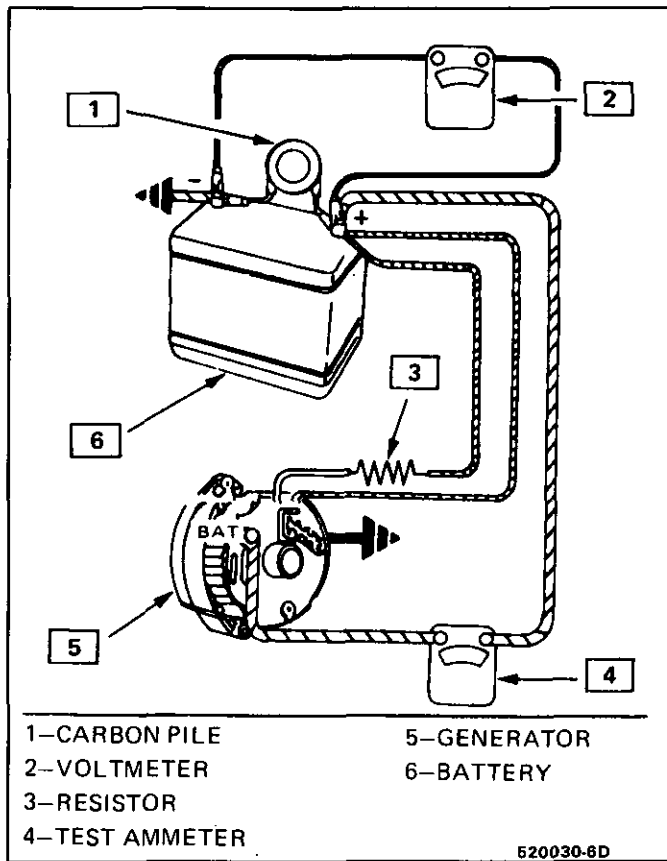

Fig. 22 Generator Bench Check - SI
1. Make connections as shown in Fig. 22, except leave the carbon pile disconnected. **IMPORTANT** - Ground polarity of battery and generator must be the same. Use a fully charged battery, and a 10 ohm resistor rated at six watts or more between the generator No. 1 terminal and the battery.